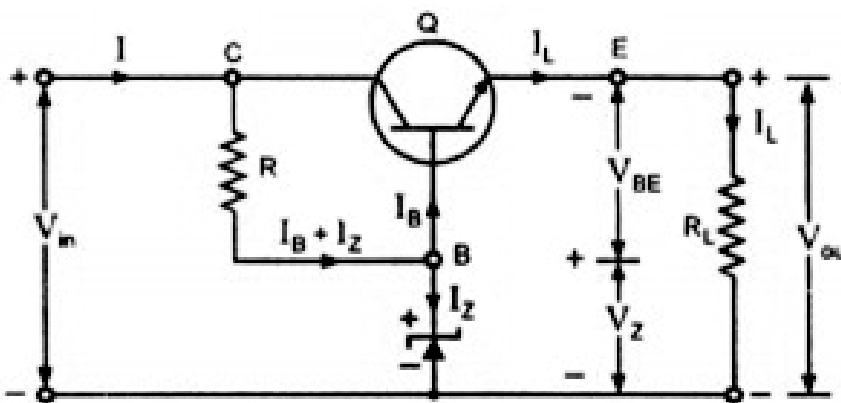

Figure 1. Simple series voltage regulator
1. Design the circuit shown in Figure 1.